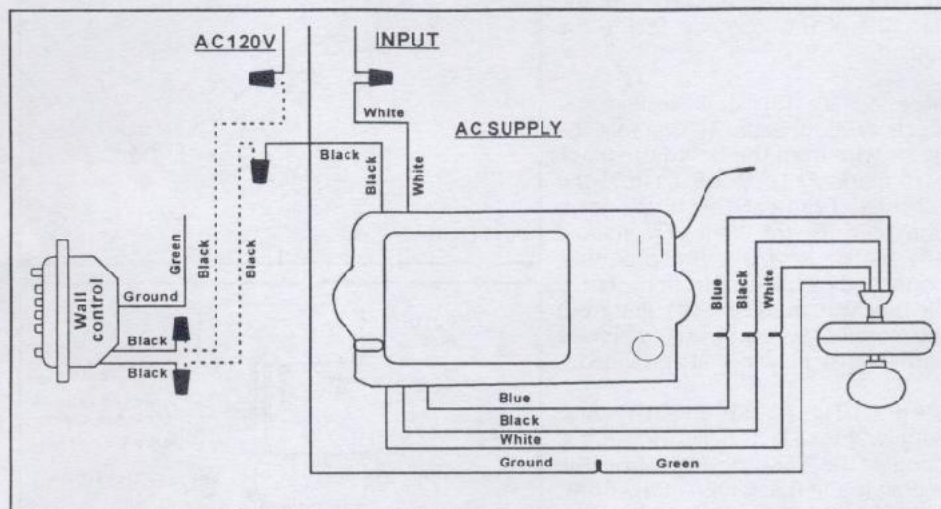

FIG 13
Step 2. Make the electrical connections as shown in (Fig. 13). If your outlet box has a ground wire (green or bare copper) connect the wall transmitter's ground wire to it; otherwise connect the wall transmitter's ground wire directly to one of the screws from the outlet box.